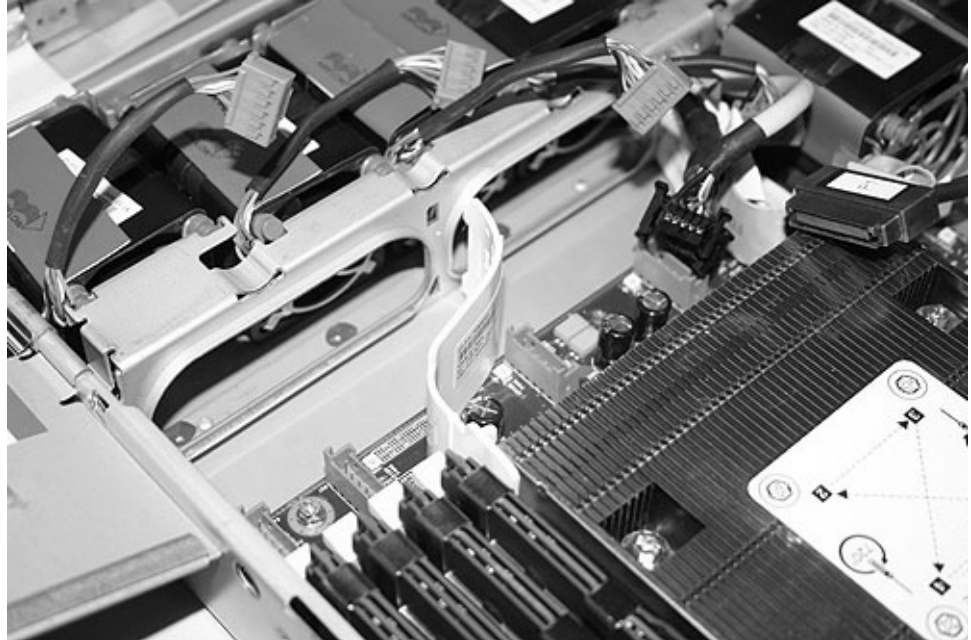

Figure 289. Right air baffle on the SAN Volume Controller 2145-8G4 system board
9. Replace the right air baffle, which is shown in Figure 289 on page 307.